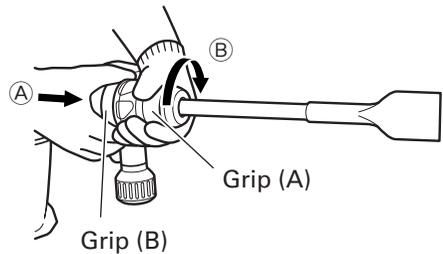

Fig. 4
- (1) As shown in Fig. 4, the blade angle can be freely changed if the grip (A) is turned in the direction of (B) in a state where grip (B) is slid in the direction of (A).
- (2) Release grip (B) and turn the tool, and make sure that it is locked completely.